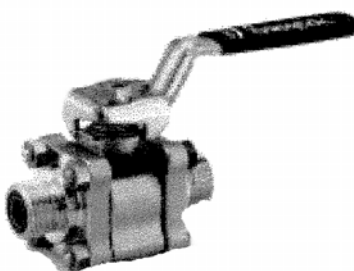

Figure 6-2. $\frac{1}{4}$ -Inch Isolation Ball Valve (B-62TF4)
1. $\frac{1}{4}$ -Inch Isolation Ball Valve (B-62TF4) (see Figure 6-2). The following $\frac{1}{4}$ -inch valves are manufactured by Whitey Co. and distributed by Swagelok. These valves are generally hull isolation valves for sensing, sampling, and vent valves. These are Swagelok Series 60 valves and are maintained in accordance with the procedures listed in sections 6-6.2.1 through 6-6.2.3.